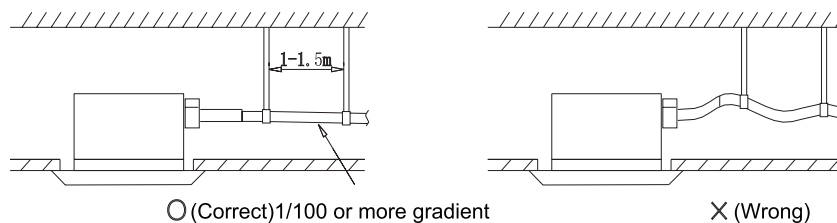

Figure 1-3-9
- The drain raising pipe should form a right angle with the unit, and distance to unit should not beyond 300mm. (As shown in Figure 1-3-9)